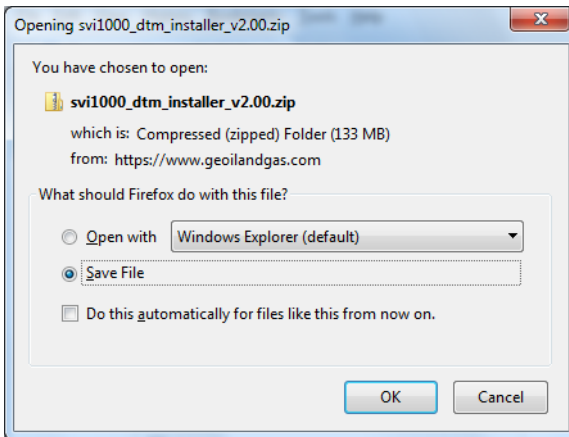

Figure 29 Opening Dialog
2. Select **Download** below *SVi1000 DTM* and Figure 29 appears.